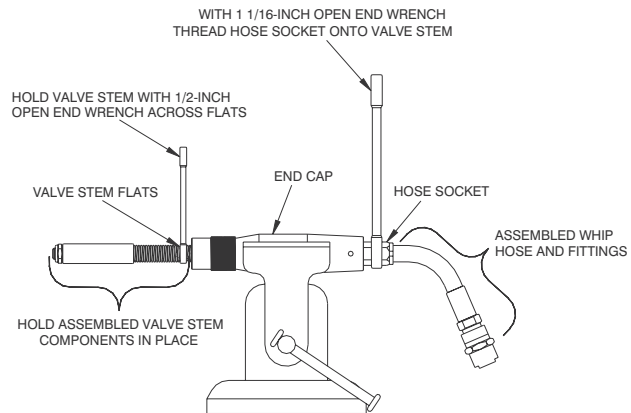

Figure 9-33. Tighten Hose Socket on Valve Stem.
8. With an xx-inch open end wrench across the flats of the Hose Socket (17), tighten the Hose Socket onto the Valve Stem. Refer to Figure 9-33.